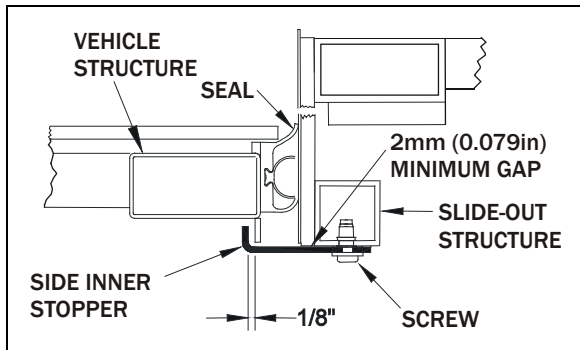

FIGURE 6: SIDE INNER STOPPER ADJUSTMENT
| FIGURE 6: SIDE INNER STOPPER ADJUSTMENT | 4 |
1. Adjust the side inner stoppers at 1/8" from the vehicle side structure keys, and tighten the screws. Make sure there is a minimum gap of 2mm (0.079") between the side inner stopper and the side window pane (Figure 6). Use shim as required.